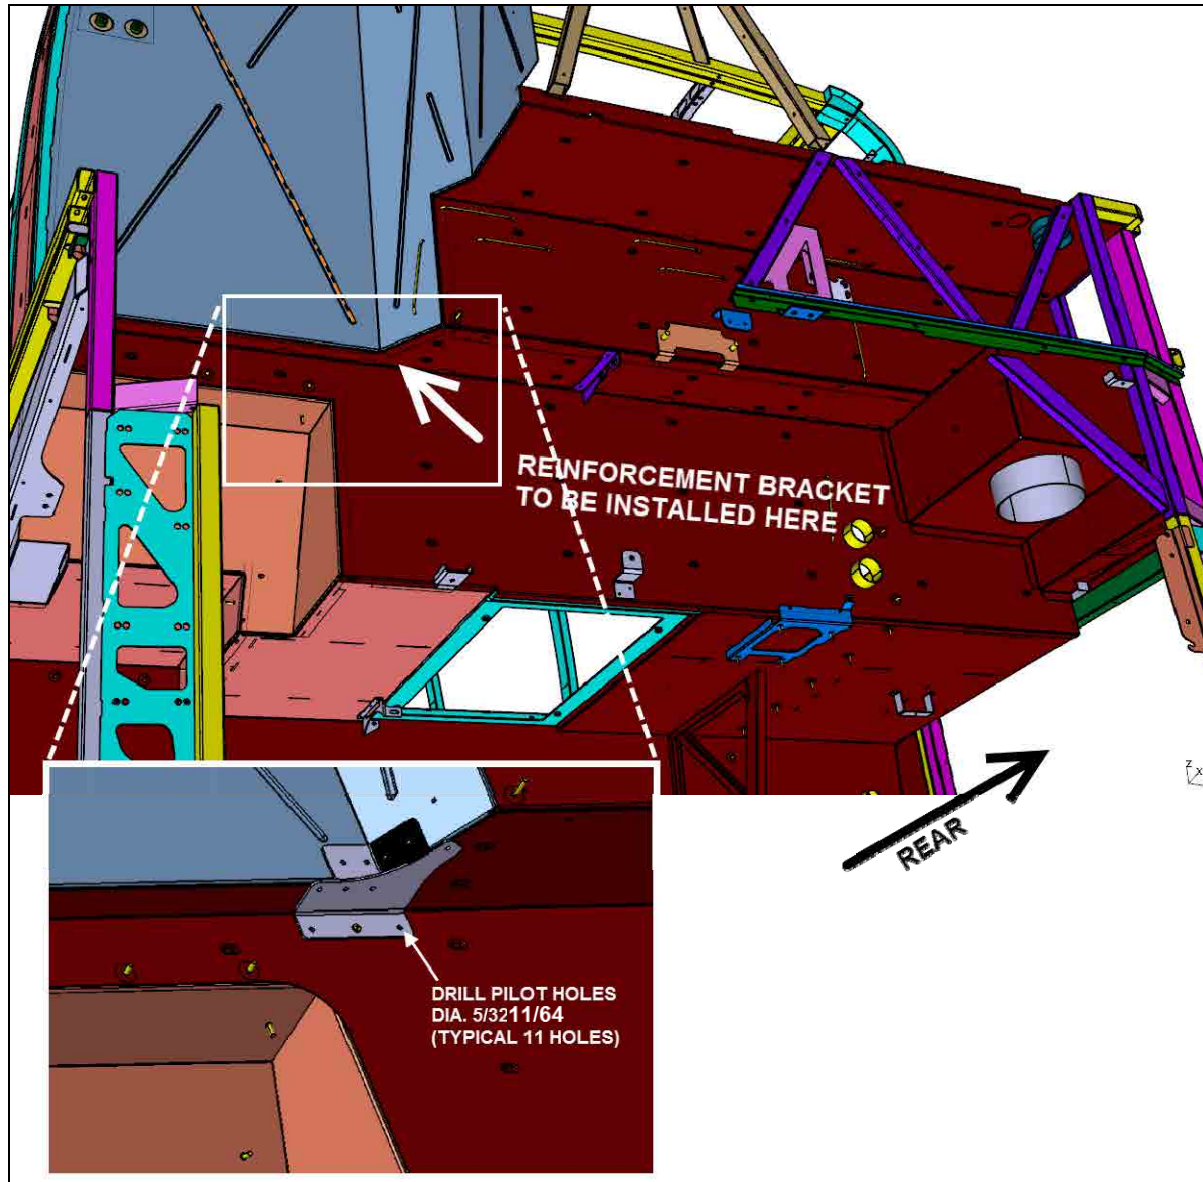

FIGURE 5
- 3) Using anti-silicone (or alcohol), properly clean the bulkhead where the reinforcement brackets will be fixed as they will be glued (see figure 5).
- 8) Using reinforcement brackets as reference for drillings position, drill pilot holes of **11/64"** diameter. Using self-tapping screw #5001169 (or 500526), secure reinforcement brackets onto bulkhead (see figure 5).